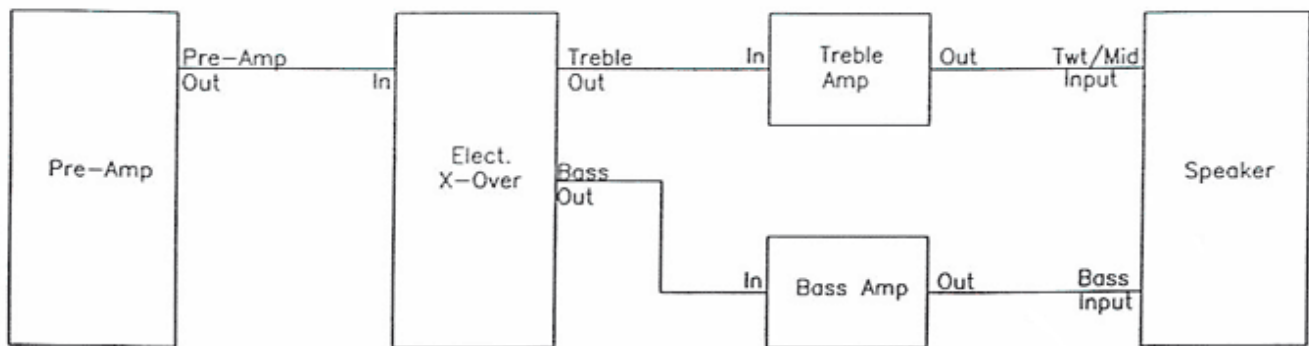

Figure 6
2. Connect the bass and mid/treble amplifiers directly to the speakers as shown in Figure 6. Do not use the MG3.6 external crossover box.